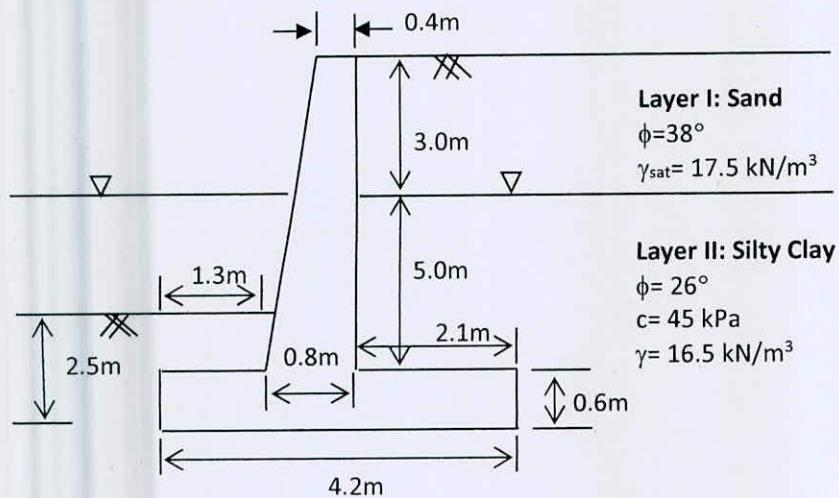
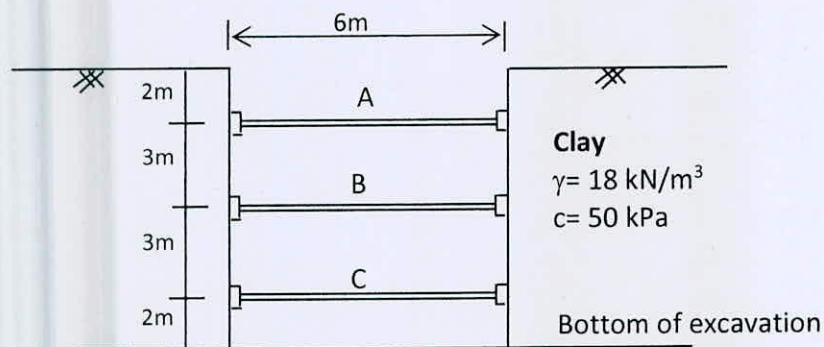

Fig. 2. for Q. 2(c)
Fig. 3. for Q. 3(c)
2. (a) List the ultimate states of external instability for gravity retaining walls. Show the common proportions of: (i) cantilever retaining wall and (ii) counterfort retaining wall. (5)
- (b) Why granular material is chosen as a backfill for constructing retaining structures? Why drainage is necessary for retaining wall. (5)
- (c) Determine the factor of safety against overturning failure for the retaining wall shown in Fig. 2. Ignore the passive resistance in front of the wall. Comment on the safety against overturning. (13 1/3)
3. (a) Mention the force/stress that is necessary to consider for designing each component of the cofferdam. Explain the phenomenon 'failure by bottom heaving'? (5)
- (b) Compare the earth pressure on braced cofferdam in 'Loose Sand' and 'Soft Clay'. Why does the earth pressure on braced cofferdam in stiff clay change over time? (5)
- (c) A braced excavation system for an open cut in clay is shown in Fig. 3. Determine the force in the struts A, B, and C. The struts are spaced 4 m center-to-center in the plan. (13 1/3)